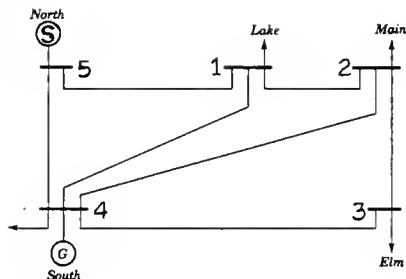

Figure 1: Power System # 1.
1. Figure 1 shows a power system that will be investigated(1). Per unit line impedances, and per unit values of real power (P), reactive power (Q), voltage magnitude (V), and voltage angle (θ) at each bus for the system are given in Table 1. The question mark (?) entry indicates an unknown quantity.